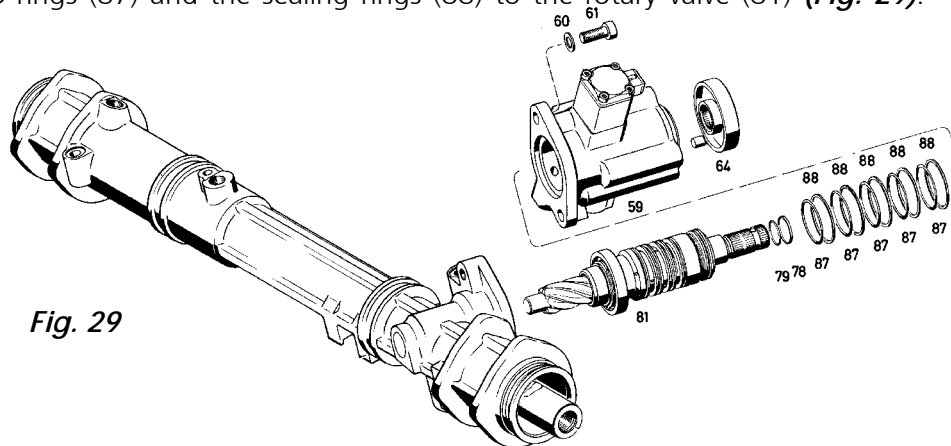

Fig. 29
4.1 Pre-assembling the rotary valve (81)
Fit the O-rings (87) and the sealing rings (88) to the rotary valve (81) (*Fig. 29*).